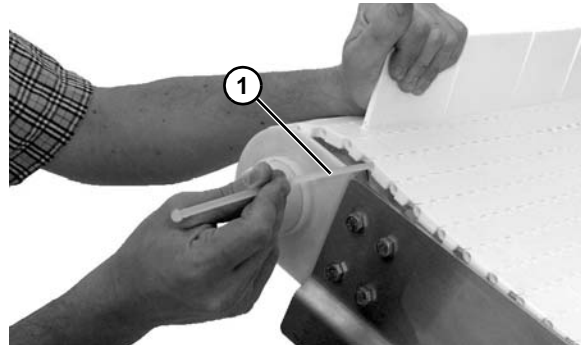

Figure 18
6. Insert the belt rod (**Figure 18, item 1**).